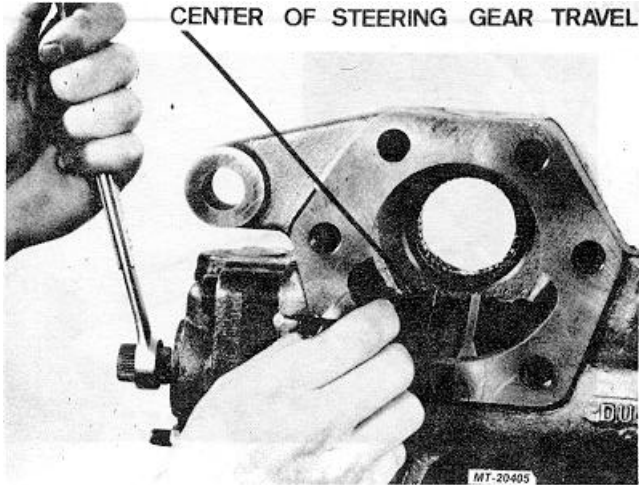

Fig. 39
33. Assemble nut (59) onto adjusting screw (51) a few threads. (Final adjustment must be made later.)
34. Assemble vent plug (60) in hole provided in side cover (58), press vent plug in flush with side cover.
35. Apply clean grease to side cover gasket (57) and assemble onto side cover (58). Grease must hold side cover gasket in place.
36. Rotate worm shaft (17) to position rack piston (31) in center of steering gear travel. Align center tooth on sector shaft (50) with third notch from seal ring (29) end on rack piston and assemble sector shaft with side cover attached into housing (20); care must be taken to not pinch side cover gasket and to be certain that sector shaft goes thru housing bearing (21) without knocking out bearing rolls (Figs. 39 and 40).